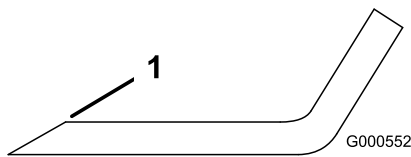
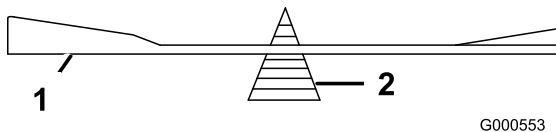

Figure 57
Figure 58
- Use a file to sharpen the cutting edge at both ends of the blade (Figure 57). Maintain the original angle. The blade retains its balance if the same amount of material is removed from both cutting edges.
- Check the balance of the blade by putting it on a blade balancer (Figure 58). If the blade stays in a horizontal position, the blade is balanced and can be used. If the blade is not balanced, file some metal off the end of the sail area only (Figure 57). Repeat this procedure until the blade is balanced.